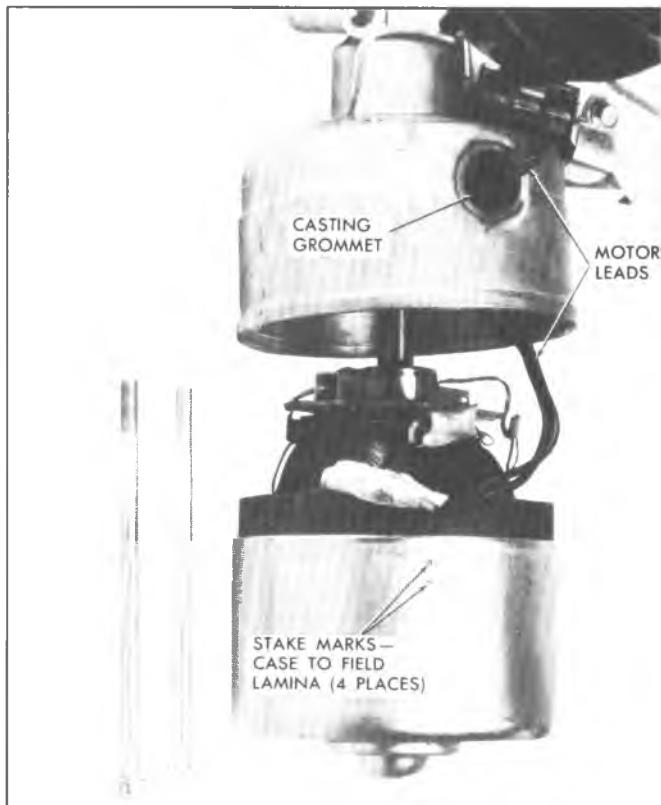

Fig. 29-Wiper Motor Separation
3. Feed exposed excess length of motor leads through the casting grommet and carefully back the case and field assembly plus the armature away from the casting (fig. 29).